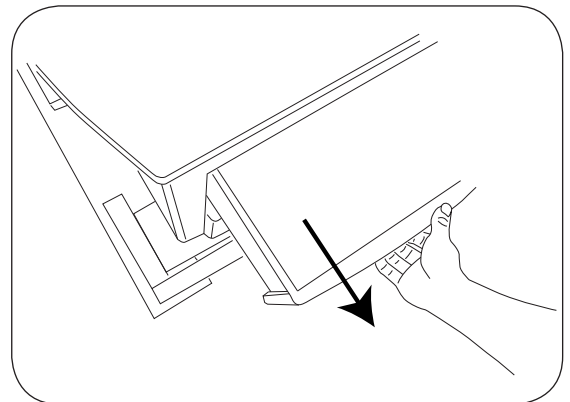

Figure 11. Pull Top Rear Pass-through Drawer Open
13. Prepare the rear of table for lifting by pulling top rear pass-through drawer to one side (Figure 11).